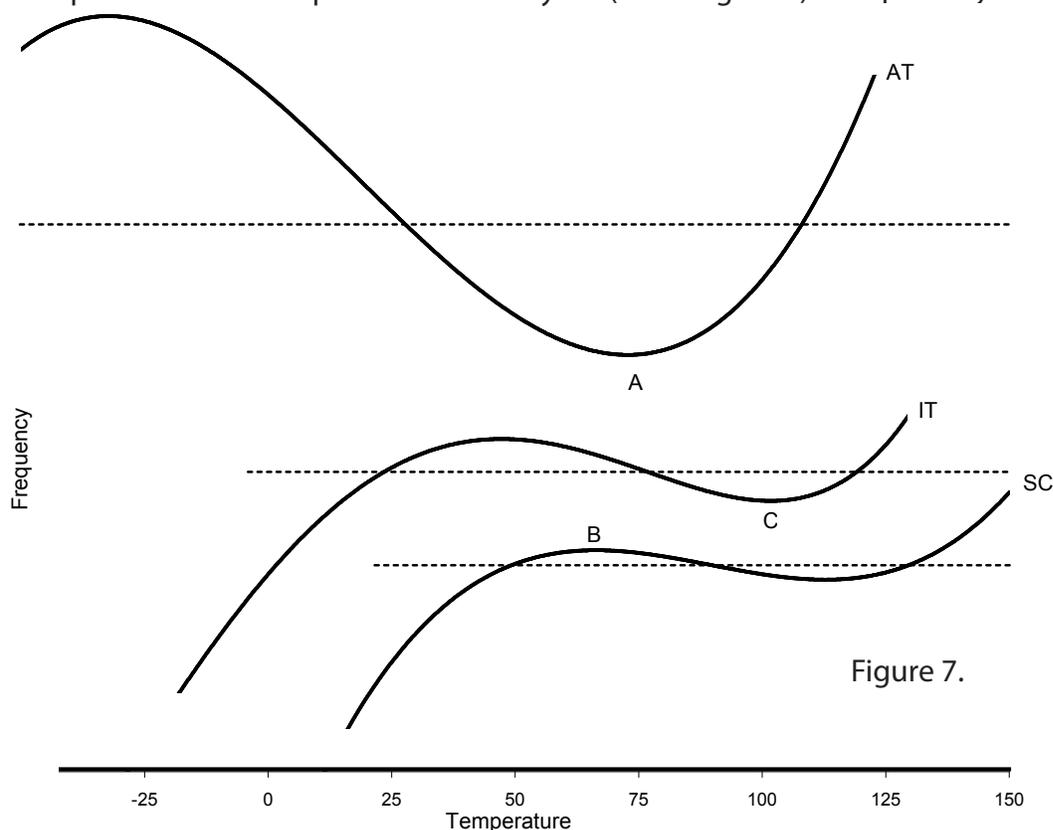

Figure 7.
4. High Operating Ambient Temperature. Figure 7 shows the relative frequency-temperature characteristics of AT, IT and SC crystals. The upper temperature turnover point of the AT crystal ("A" in Figure 7) and lower temperature turnover point of the SC crystal ("B" in Figure 7) are optimally in
the 70°C to 90°C temperature range. Based upon (a) the desired 10°C difference between the highest operating ambient temperature and the crystal turnover temperature, and (b) the manufacturing tolerance of crystal turnover temperatures, these crystals are best suited for maximum operating ambient temperatures of 50°C to 75°C. However, the upper temperature turnover point of the IT crystal (“C” in Figure 7) is well suited to higher temperature operation and thus the IT crystal is a logical choice for high stability oven controlled oscillators having a maximum operating temperature in the 85°C to 95°C range. Note that while SC and IT crystal curves are relatively flat at elevated temperatures, their frequency falls off rapidly at low temperatures. Thus, while they serve well in high stability HIF oven controlled oscillators, they are generally not well suited for other types of stable crystal oscillators.